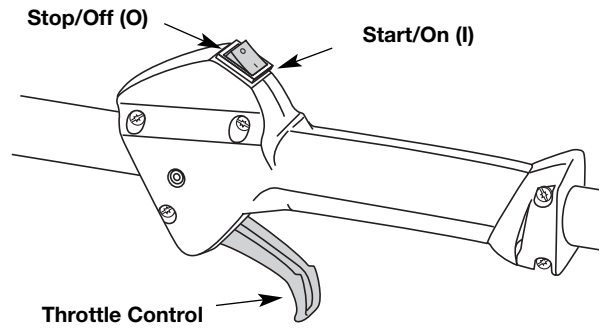

Fig. 6
3. Make sure the On/Off Stop Control in the ON (I) position (Fig. 6).